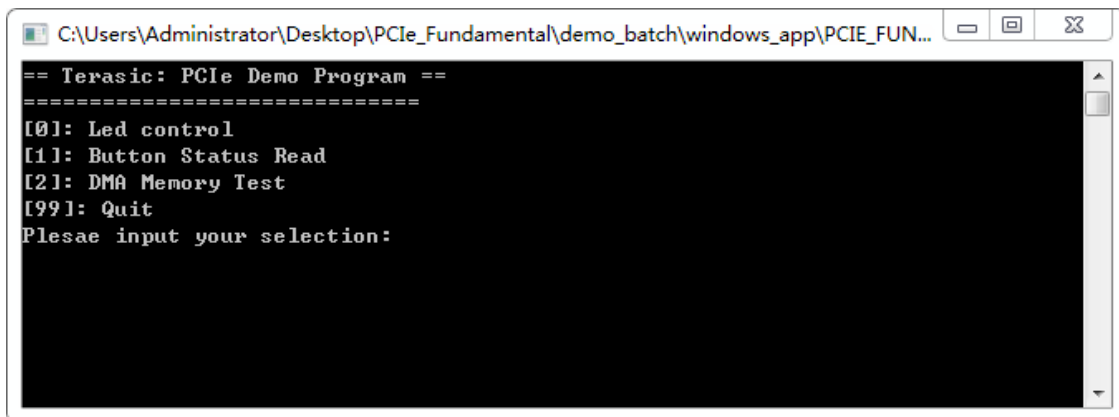

Figure 7-12 Screenshot of Program Menu
6. Goto windows_app folder, execute PCIE_FUNDAMENTAL.exe. A menu will appear as shown in **Figure 7-12**.